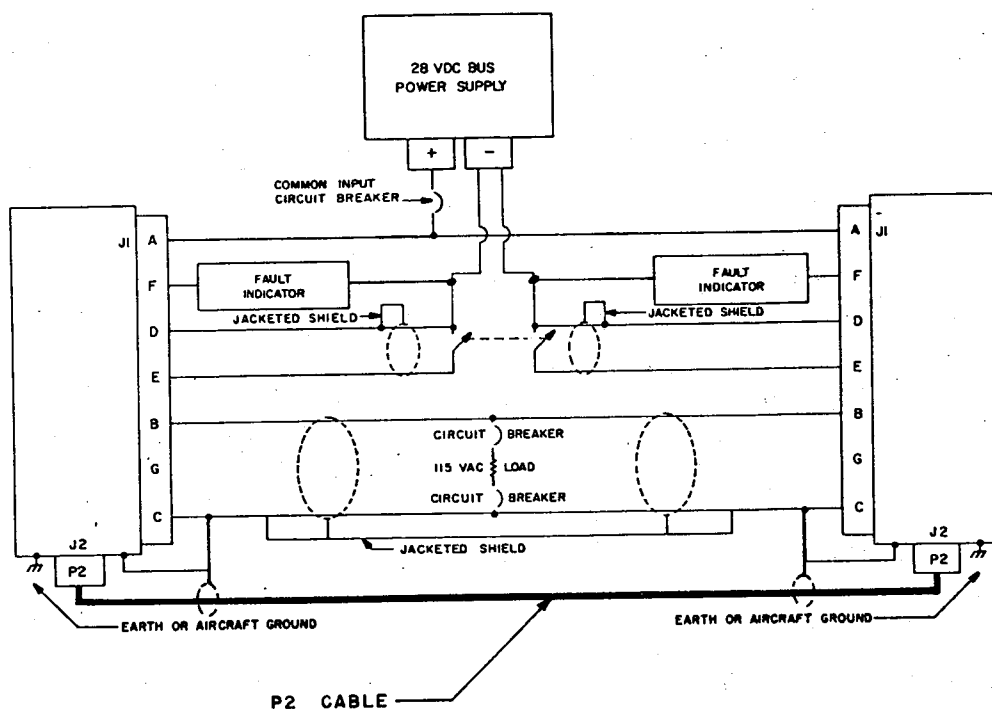

FIGURE 4
b) Parallel Configuration - Refer to Figure 4
If the remote ON/OFF function is to be used, the switches which operate each inverter must be isolated from each other and must cause all the inverters to turn on or off simultaneously. This necessitates the use of one multiple pole, single throw switch on which each inverter occupies one set of poles. For example, Figure 4 shows two inverters employing the required double pole, single throw switch. Pins E and D on plug P1 of each inverter are connected to separate sets of poles on the multiple pole switch with #22AWG 2-conductor, shielded, teflon jacketed cable. One conductor is connected to Pin E, and the other conductor and the shield are connected to pin D. If shielded cable is not available, twisted pairs of #22AWG wire may be used instead.